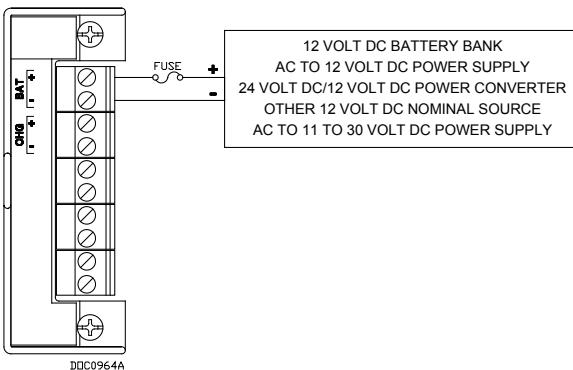

Figure 5. 12 Vdc Power Supply and BAT+ / BAT- Wiring
- the 12-volt dc source into the clamp beneath the appropriate BAT+ / BAT- termination screw (see *Figure 5*) **OR**
- the 24-volt dc source into the clamp beneath the appropriate + / - termination screw. The + terminal should also have a fuse (see *Figure 5*) **OR**
- the 11-30 volt dc source into the clamp beneath the appropriate +/- termination screws (see *Figure 5*)